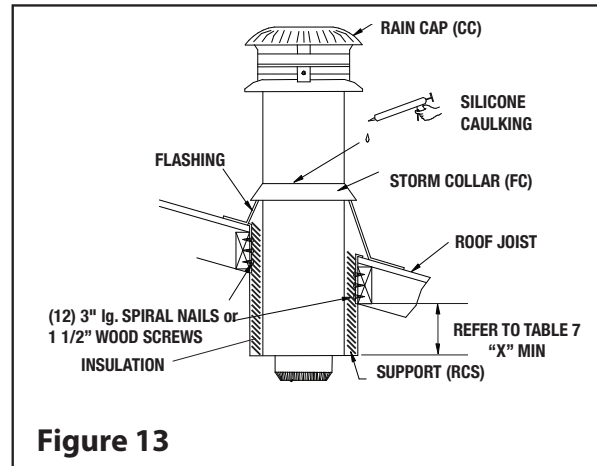

Figure 13
Step 3: Use a level to ensure the support is vertical. If the support extends above the roof, cut it flush with the top of the roof. Attach the support to the framed opening using (12)-3” spiral nails or #8 x 1 1/2” wood screws (see Figure 13).